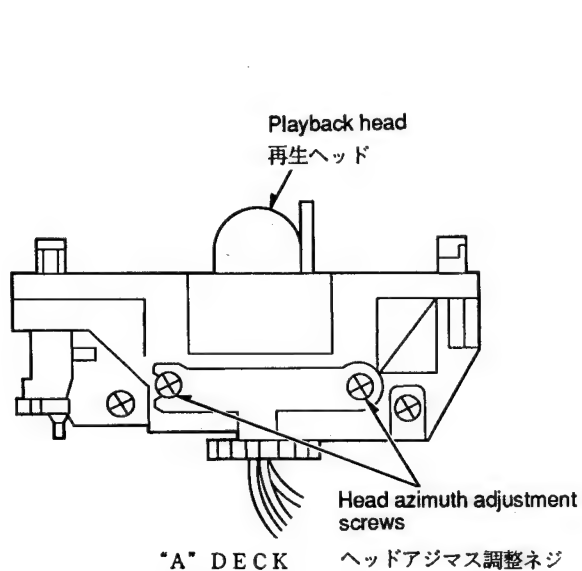

Figure 30
- (2) Insert test tape MTT114N (10 kHz, -10 dB) and play it back. Adjust the head azimuth adjustment screws of deck A, as shown in Figure 30, so that the right and left line outputs are maximum and have the same phase in both the normal and reverse direction.